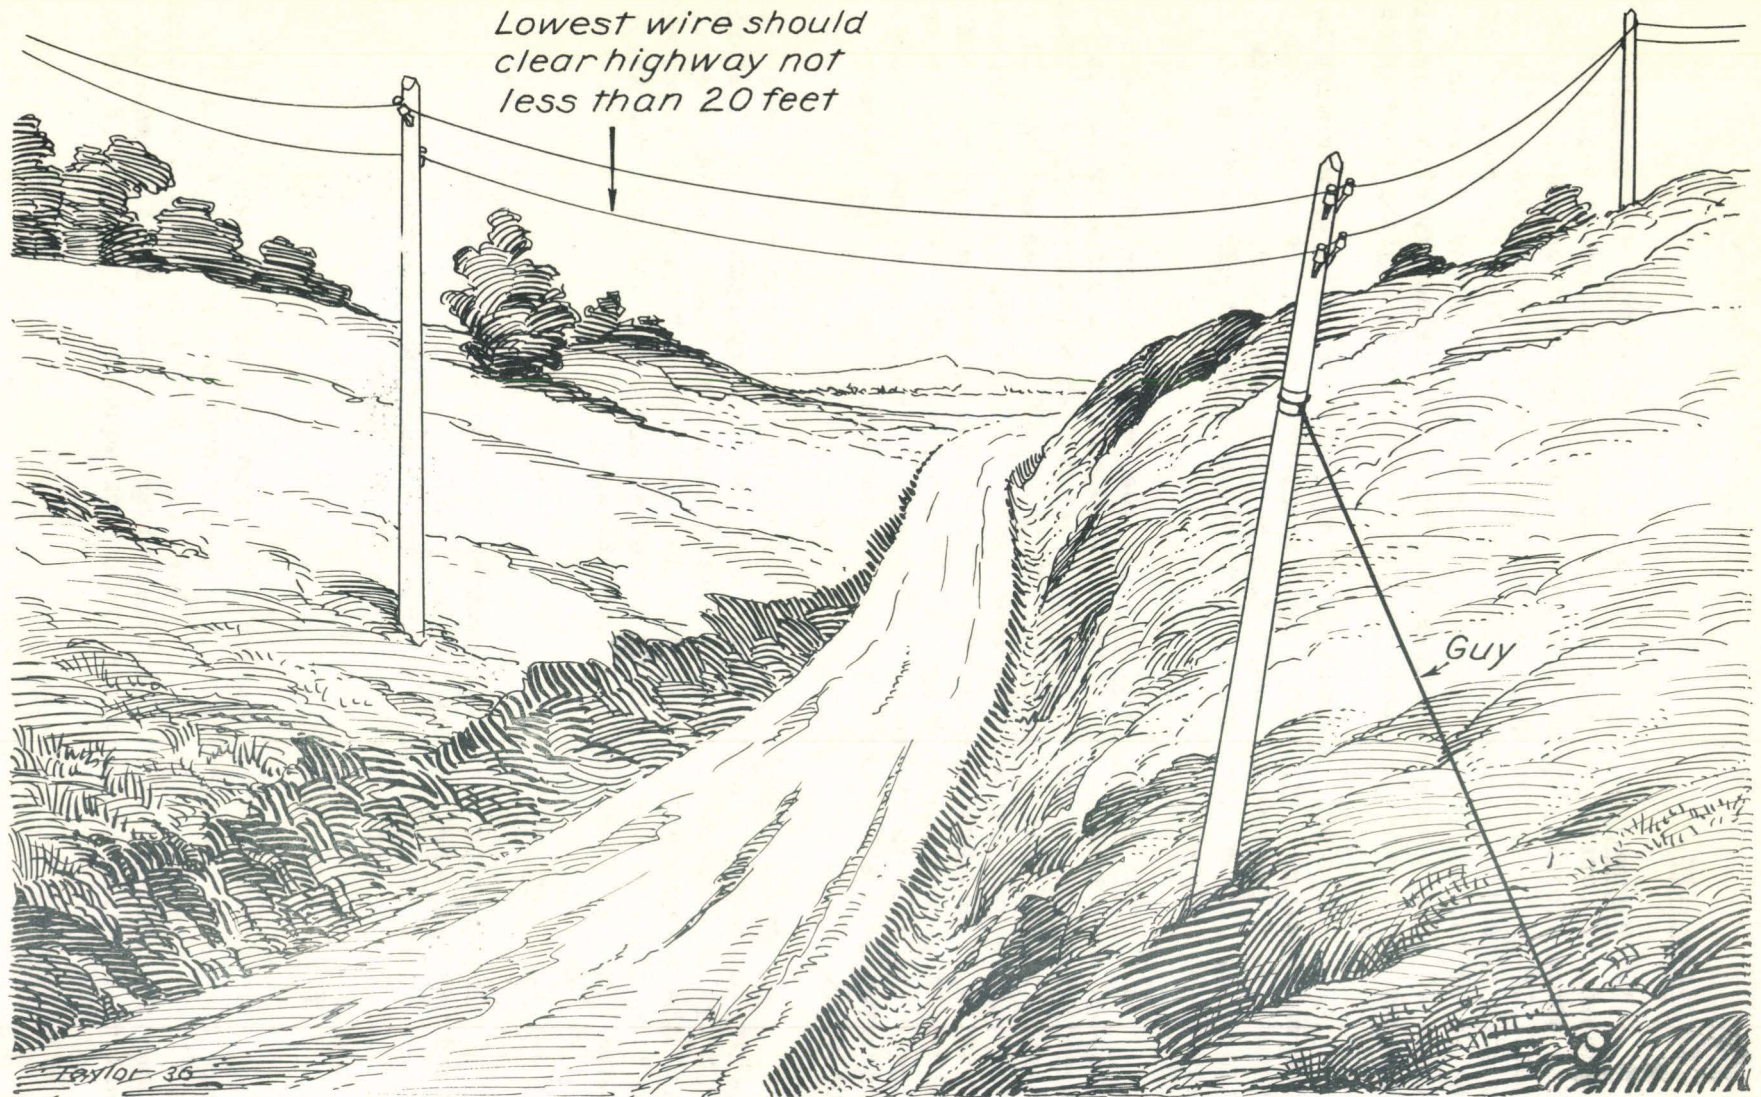

FIGURE 32
1. Highways: Highway crossings should ordinarily be made overhead, if consistent with the State Highway Commission's policy, with short crossing spans made according to the best commercial practice. If it is a bracket line, two brackets should be used on the pole on each side of the road as shown in figure 32. With the approval of the Forest Supervisor, underground crossings may be made as shown in Figure 33 when it is impossible to secure a satisfactory clearance with an overhead crossing or when required by the State Highway Commission.